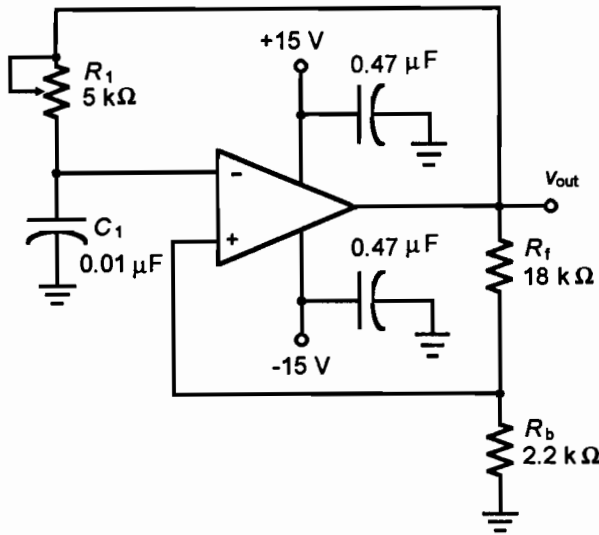

Figure 53.1
1. Construct the circuit in Figure 53.1. Adjust the potentiometer for a resistance of 5 kΩ.
1. Discuss the effect of the feedback value on the frequency of operation of the relaxation oscillator. For example, if in the circuit of Figure 53.1, Rb were changed to 4.7 k $\Omega$ , what effect would this have on the output frequency?
2. Describe how you would modify or what additional circuitry you would add to the circuit of Figure 53.1 to make the output TTL compatible, that is, to obtain an output square wave that changes from 0 V to +5 V.
4. If the  $R_1$  value were  $3\text{ k}\Omega$  and the  $C_1$  value were  $0.47\text{ }\mu\text{F}$ , what would the output frequency be for the circuit in Figure 53.1?